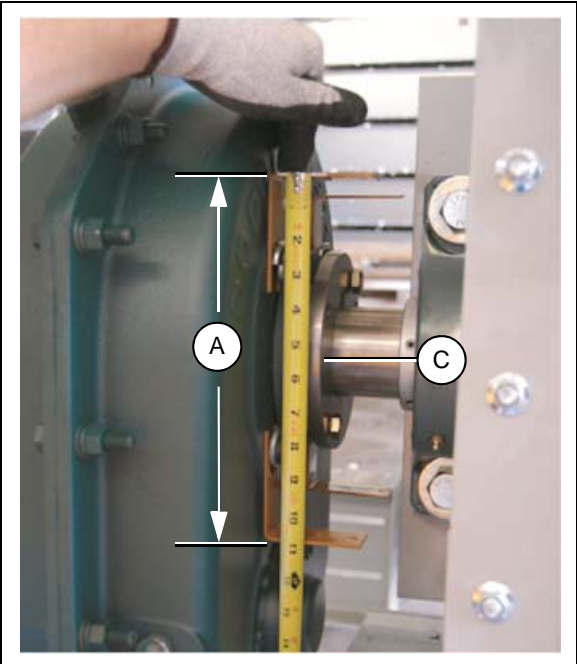

Figure 6AA
3. Adjust the shaft guard clips so the distance between the clips (A) is the same as the height of the shield guard measurement taken in Step 1 on Page 29. Center distance on the center of the reducer shaft. Clips should line up horizontally and vertically across. Tighten bolts on clips. \(See Figure 6AA.\)